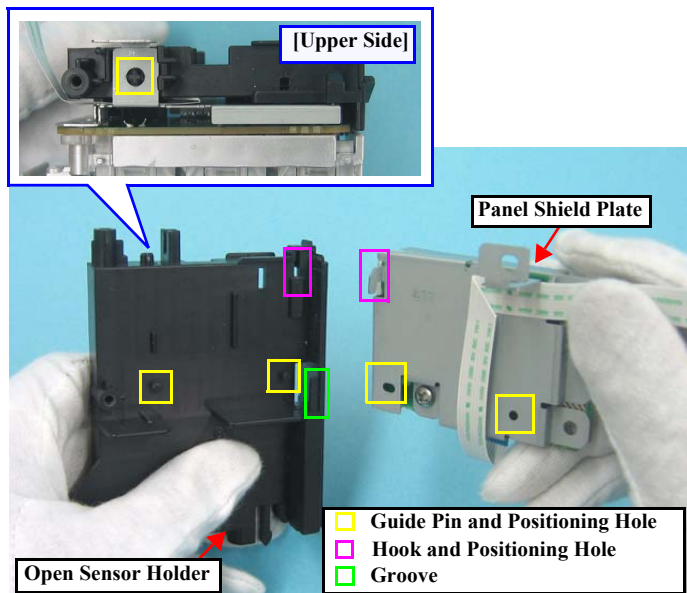

Figure 4-32. Installing the Panel Unit
- When installing the Panel Shield Plate to the Open Sensor Holder, match the hook and guide pins with the positioning holes shown in Fig.4-32 and insert the Panel Shield Plate into the groove of the Open Sensor Holder to secure the Panel Shield Plate.